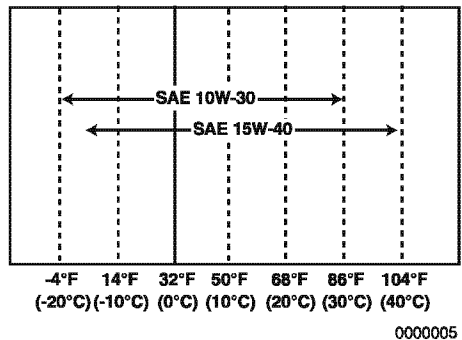

Figure 5
- Select the oil viscosity based on the ambient temperature where the engine is being operated. See *Engine Oil Viscosity Figure 5*.
- Select the appropriate engine oil viscosity based on the ambient temperature shown in the SAE Service Grade Viscosity Chart (**Figure 5**).